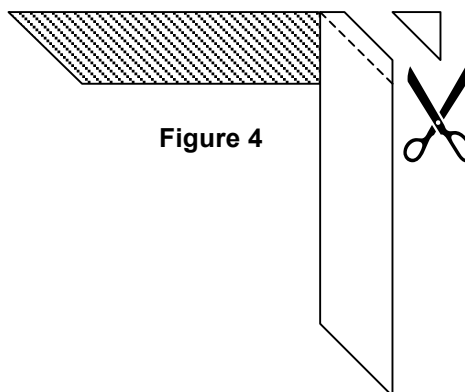

Figure 4
- Trim fabric corners  $\frac{1}{4}$ -inch away from stitching line. (Figure 4)